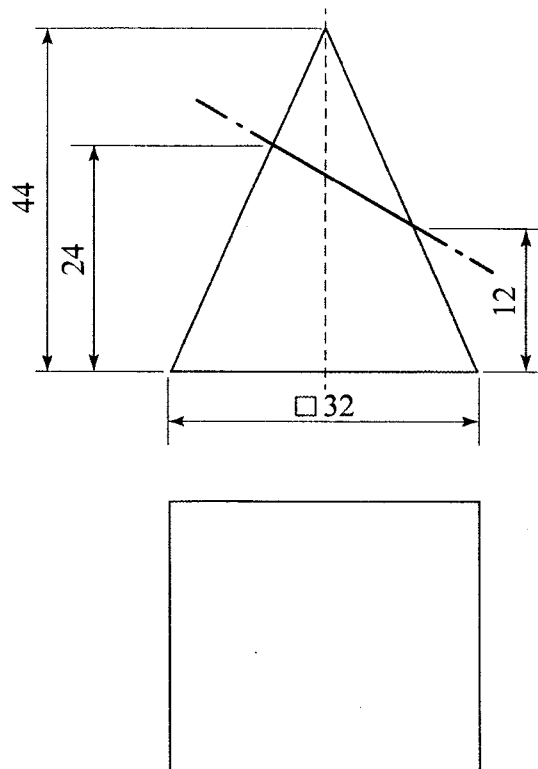

Figure 4
8. **Figure 4** shows the front elevation and incomplete plan of a truncated square-based pyramid.